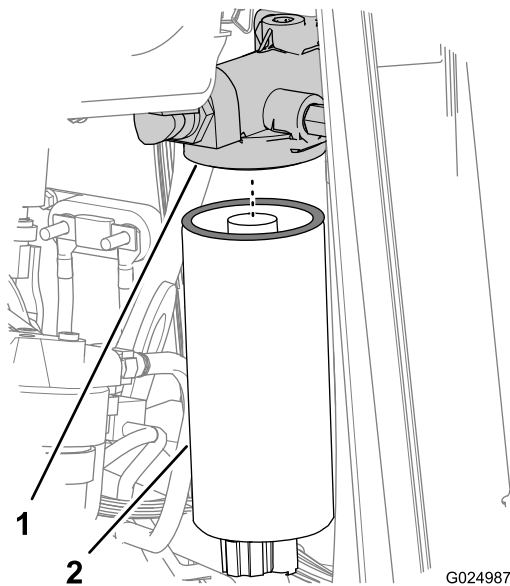
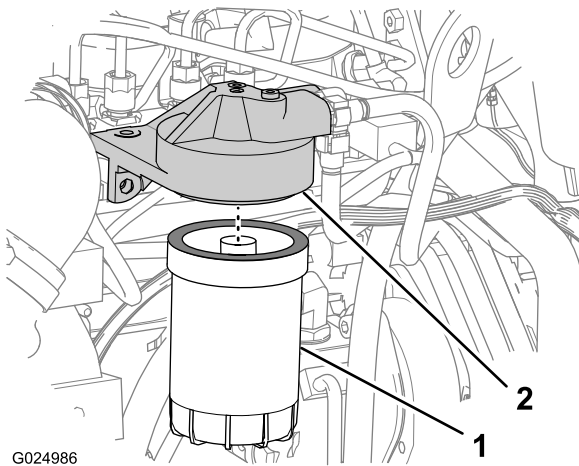

Figure 74
Figure 75
7. Loosen and remove the primary fuel filter (Figure 74).
- Loosen and remove the secondary fuel filter (Figure 75).
- Wipe clean the sealing surfaces of the filter adapters for the primary- and secondary-fuel filters (Figure 74 and Figure 75).
- Install the primary-fuel filter onto the filter adapter, and tighten the filter until the gasket contacts the filter head surface (Figure 74).
- Install the secondary-fuel filter onto the filter adapter, and tighten the filter until the gasket contacts the filter head surface (Figure 75).